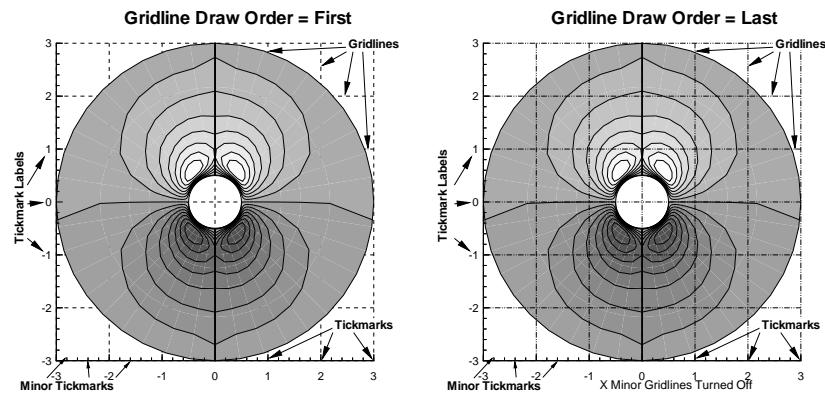

Figure 17-6. The grid plotting order.
6. For XY- and 2-D axes, you may specify a gridline draw order. Gridlines may be drawn either first, before any of the other plotting layers, or last, so that they overlay any plotting layers. Figure 17-6 shows the different effect each option has.